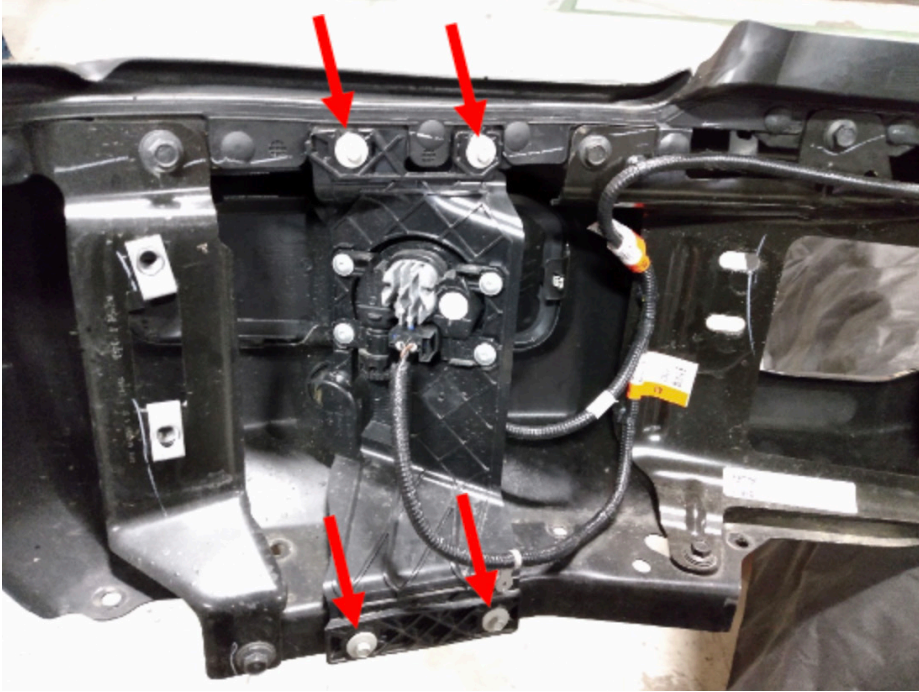

Figure 11
11. Using an 8mm socket wrench, remove the four (4) screws in each fog light bracket to remove them from the bumper. Figure 11